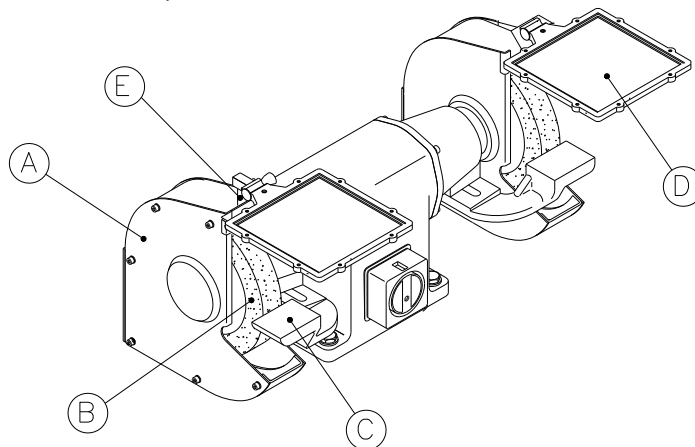

Fig.: 1.1
Control before use that the outer cover (A) (see *fig.: 1.1*) is solidly mounted to the inner cover. The outer cover must be mounted during operation. Only have the outer cover dismounted during changing the grinding wheel. The grinding wheel (B) must be able to rotate freely without being loose. The tool rest (C) must be adjusted to a distance of appr. 2 mm from the grinding wheel.